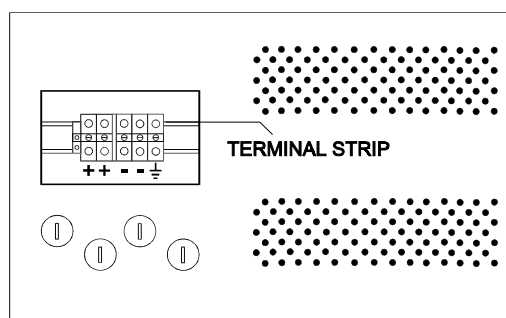

Figure 26
- b. Now, find the terminal strip shown in Figure 26. Make the ground connection at the terminal strip ground lug (or earth lug) inside the cabinet.
Connect the positive (+) cable to the positive (+) terminal in the battery cabinet, and connect the negative (–) cable to the negative (–) terminal in the battery cabinet. (See Figure 26.)